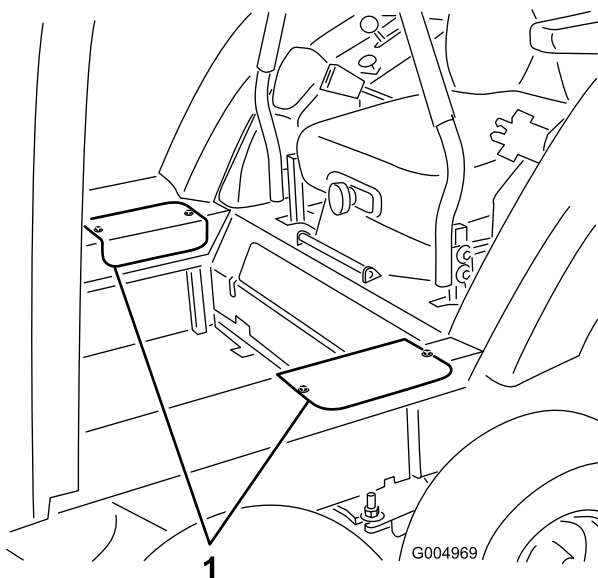

Figure 131
2. Remove the two screws securing each side access cover and remove the covers (Figure 131).